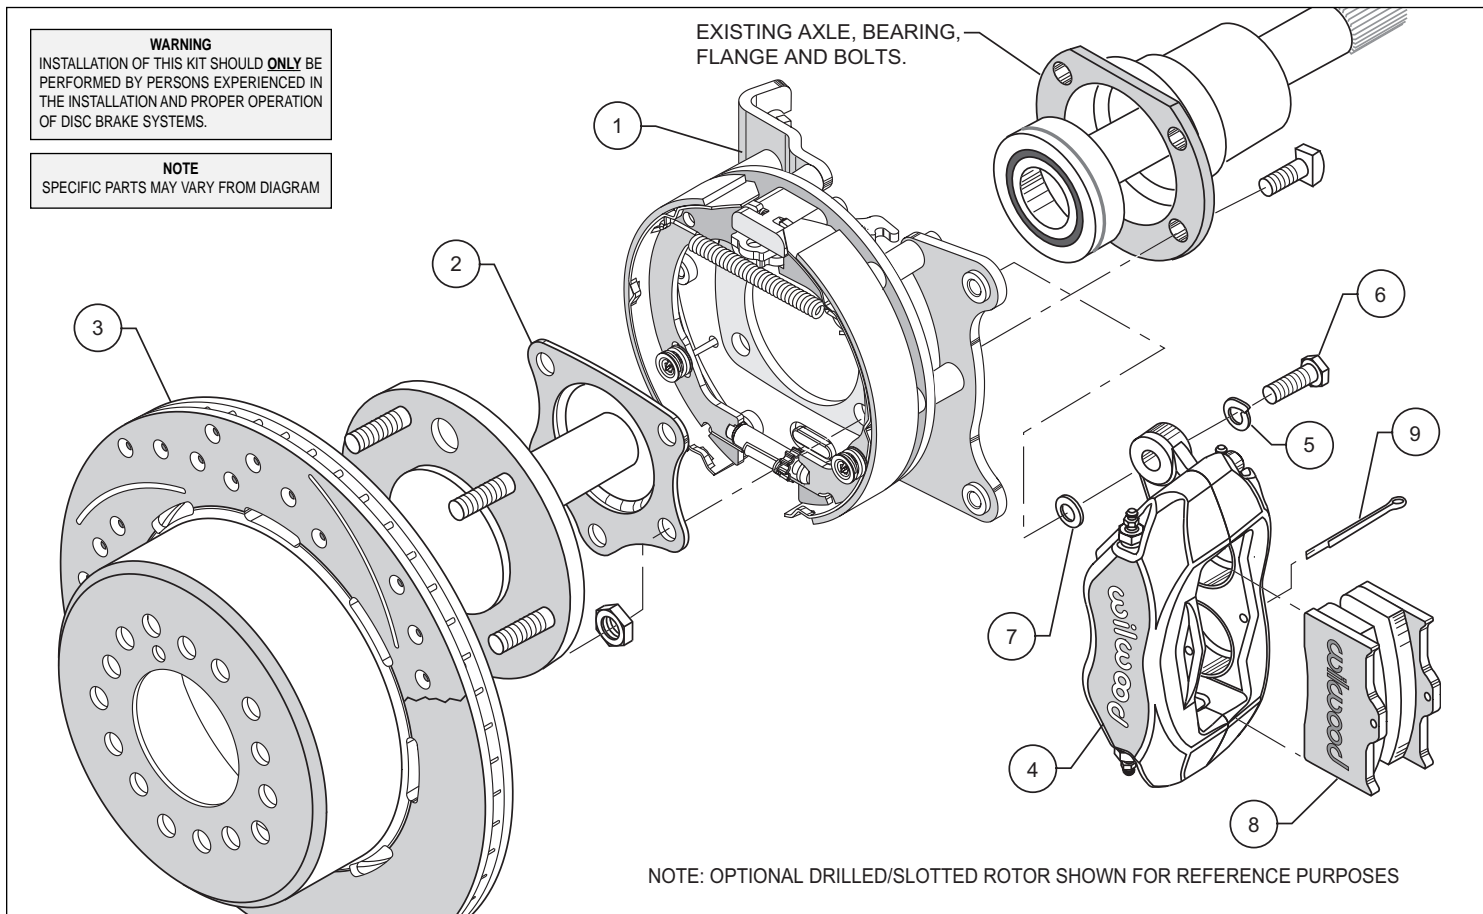

Figure 4. Typical Installation Configuration
A. **Full Circle Retainers** require the utilization of a qualified machine shop to press off the axle bearing and OEM retainer. Then have machine shop install new retainer (2), supplied with bracket kit with lip facing toward bearing and backing plate (or backing plate can be installed later by removal and replacement of bearing snap ring, reference Figures 4, 6 and 7 (we suggest that you install a new bearing at this time, not supplied with kit).
B. **"U" Retainers** require the removal of the OEM retainer by cutting or grinding a notch in the retainer to facilitate removal. Once OEM retainer is removed, install new retainer (2) supplied with bracket kit with the "U" opening facing up and the lip facing toward bearing, reference Figures 4, 6 and 7.